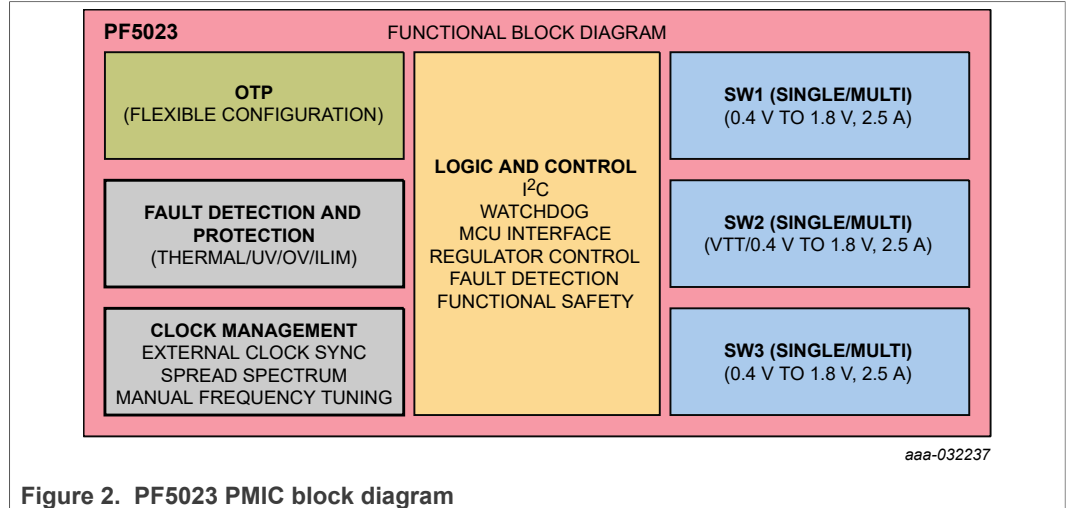

Figure 2. PF5023 PMIC block diagram
1.8 V. These bucks can work in dual phase and triple phase. Figure 2 shows the PF5023 PMIC block diagram.